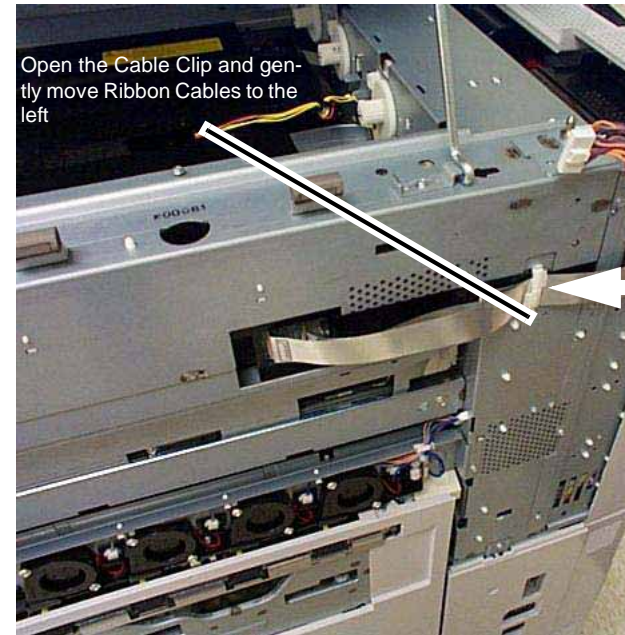

Figure 4 Opening the Cable Clip
8. Open the Cable Clip (Figure 4).